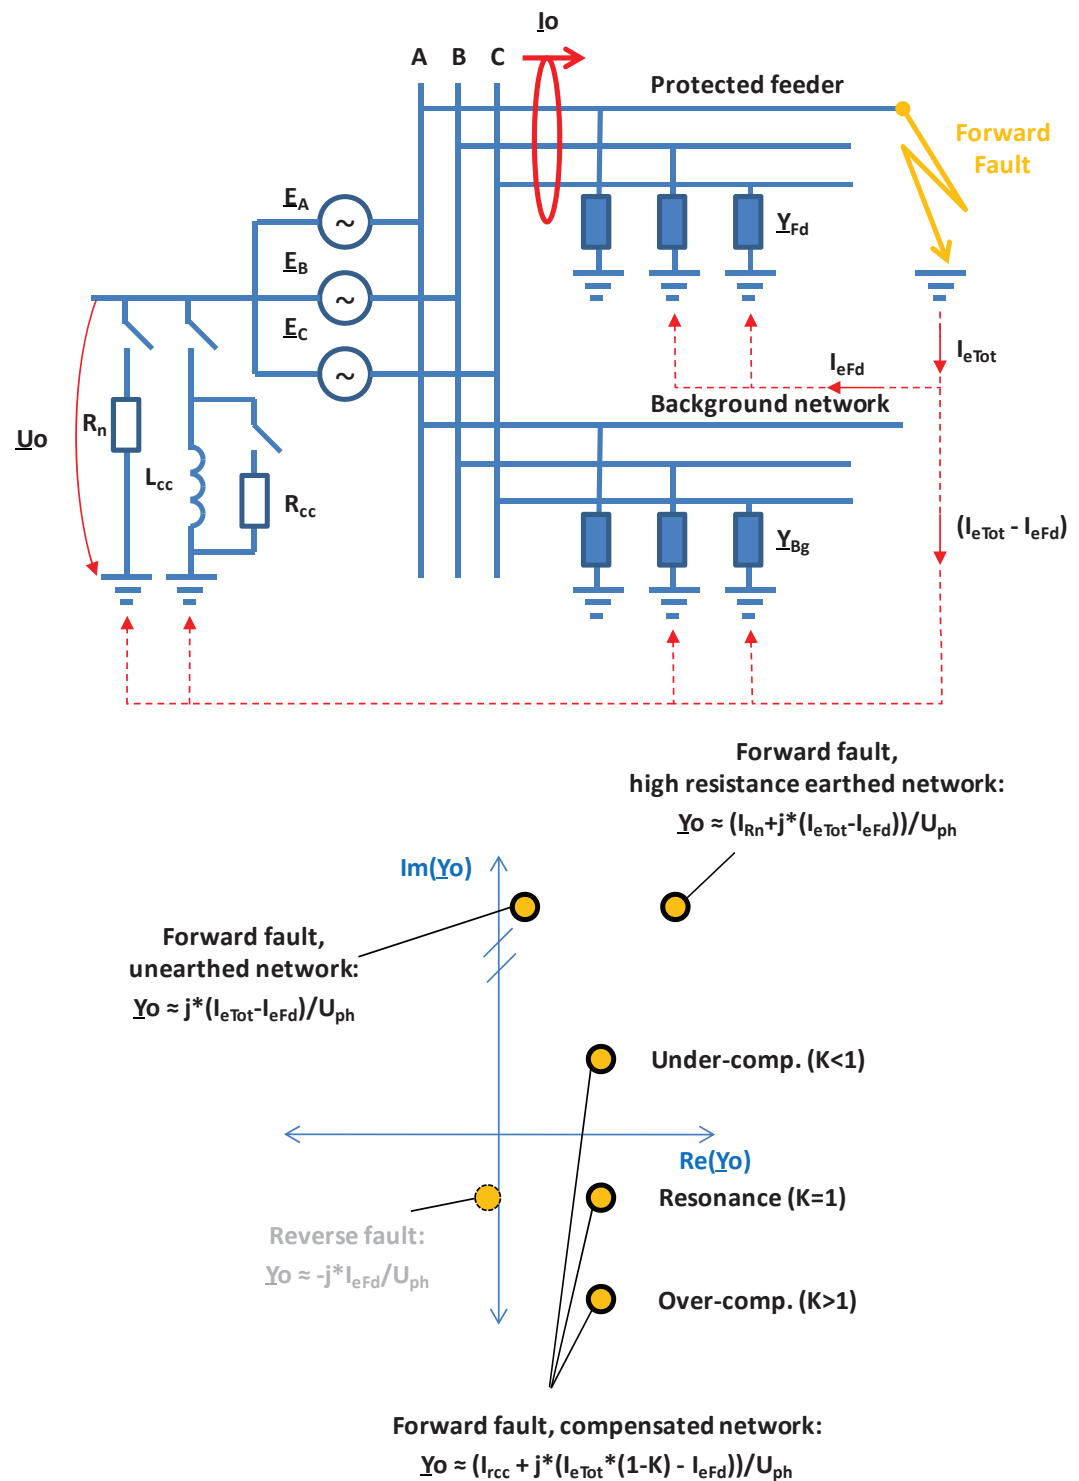

Figure 167: Admittance calculation during a forward fault
*Equation 16* shows that in case of a fault inside the protected feeder in unearthed networks, the measured admittance equals the admittance of the background network. The admittance is dominantly reactive; the small resistive part of the measured admittance is due to the leakage losses of the background network. Theoretically, the measured admittance is located in the first quadrant in the admittance plane, close to the  $\text{im}(Y_0)$  axis, see *Figure 167*.
*Equation 18* shows that in case of a fault inside the protected feeder in compensated networks, the measured admittance equals the admittance of the background network and the coil including the parallel resistor. Basically, the compensation degree determines the imaginary part of the measured admittance and the resistive part is due to the parallel resistor of the coil and the leakage losses of the background network and the losses of the coil. Theoretically, the measured admittance is located in the first or fourth quadrant in the admittance plane, depending on the compensation degree, see *Figure 167*.
*Equation 20* shows that in case of a fault inside the protected feeder in high-resistance earthed systems, the measured admittance equals the admittance of the background network and the neutral earthing resistor. Basically, the imaginary part of the measured admittance is due to the phase-to-earth capacitances of the background network, and the resistive part is due to the neutral earthing resistor and the leakage losses of the background network. Theoretically, the measured admittance is located in the first quadrant in the admittance plane, see *Figure 167*.